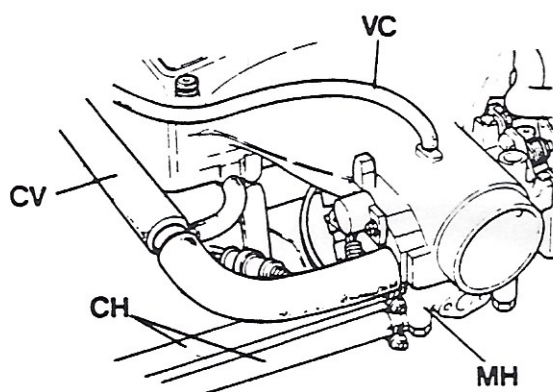

fig.41
To ensure a quick warm-up time a manifold "hot spot" (MH), see Figure 41, is fitted under the plenum chamber intake in the area of the throttle butterfly; the hot spot is heated by coolant passing through hoses (CH) from the engine.